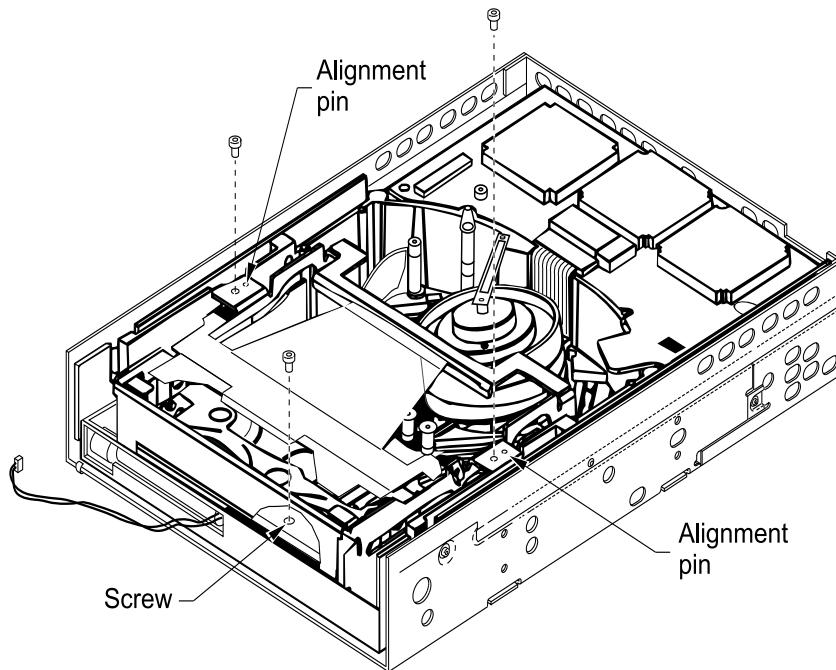

Figure 6 Installing the cartridge loader
2. Using the alignment pins shown in Figure 6 for guidance, lower the back end of the cartridge loader into the tape drive.
3. Replace the three screws that attach the cartridge loader to the tape drive (see Figure 6). Tighten the screws to 1.2 inch-pounds of torque.
4. Using a pair of tweezers, reconnect the cartridge loader wires to the circuit board (see Figure 6).